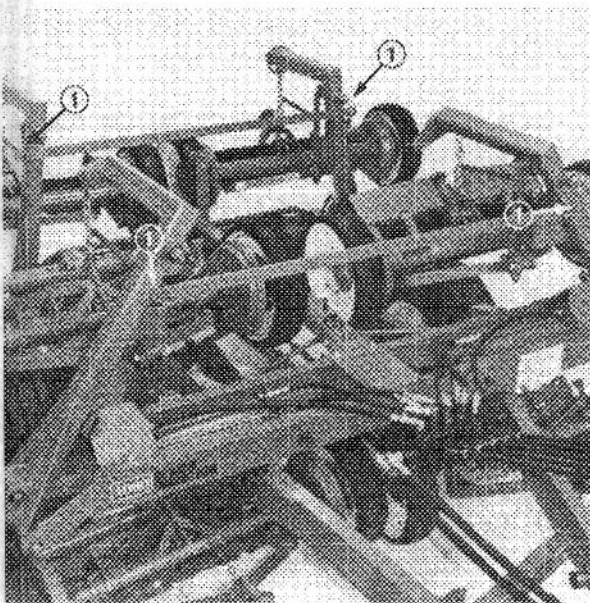

Figure 21
3. Mount transport straps to mounting pins on lift arms and secure with hair pin cotters (Fig. 21).